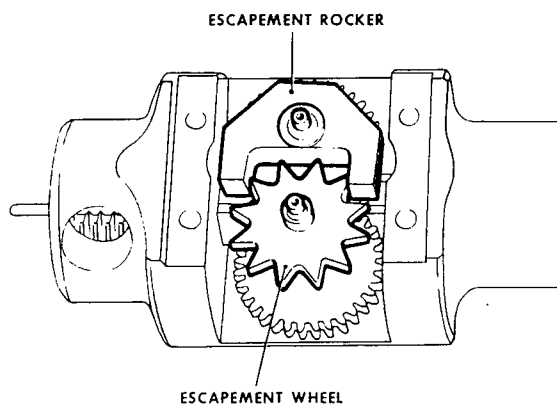

Fig 5 Assembling the unit (2)
7.6 Refit the escapement rocker (fig 5).